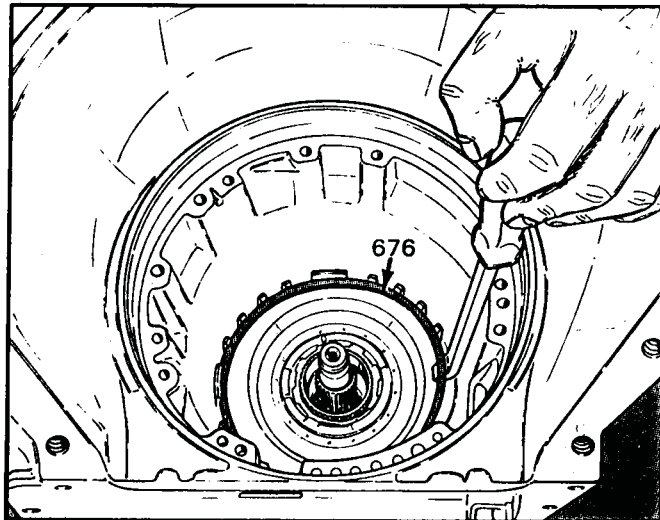

Figure 73
1. Remove the low roller support snap ring from the case as shown in Figure 73.